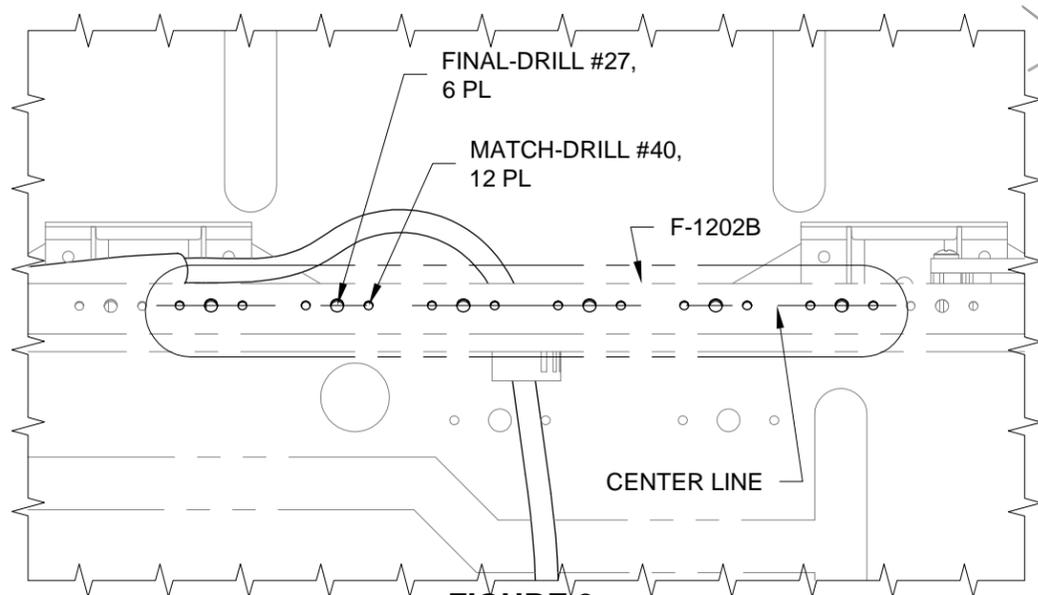

FIGURE 2: DRILL FOR NUTPLATE INSTALLATION
Step 4: Final-Drill #27 the center six holes in the F-1202B Panel Base. See Figure 2.
Draw a center line across the center of the six #27 holes to help in orienting the nutplates for the next step. See Figure 2.